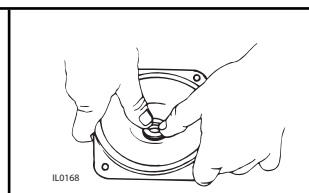

Figure 7 - Press in Seal
2. Apply liquid soap (one drop only) to the outside of the Buna-N gasket that houses the ceramic seal seat. With thumb pressure, press the ceramic seat, polished face up, squarely into the seal cavity (see Figure 7).